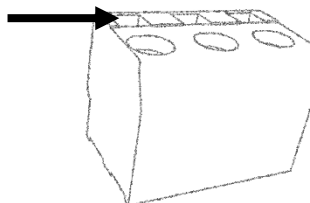

Figure 4 - Insert a small bladed screwdriver before inserting the conductor wire.
2. Insert a small bladed screw driver inside the **square** hole release mechanism to open the cage clamp. (Figure 4)